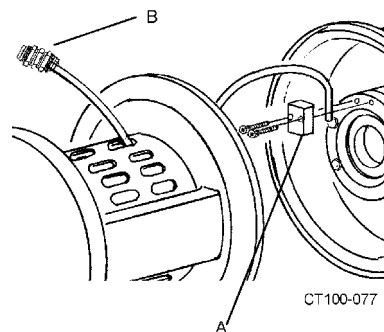

Figure 10 - Installing the Water Cascade System
- If your system has a water cascade, thread water cascade hose through the guard and install cascade block on backplate. (Figure 10, items A and B).